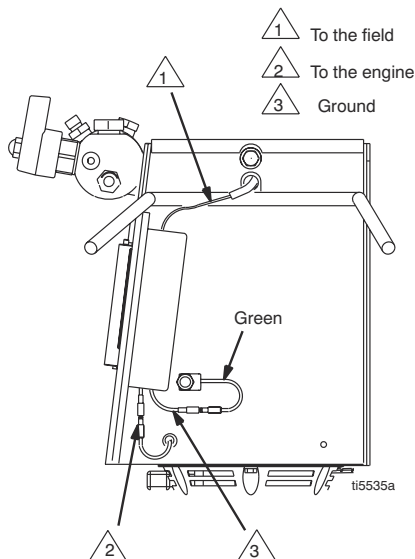

FIG. 11
2. FIG. 11. Disconnect all necessary wiring.
3. FIG. 11. Connect all necessary wiring.
2. FIG. 11. Push pin (8) into hole. Push retaining ring spring into groove all the way around connecting rod.